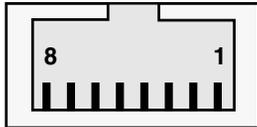

FIGURE 3 Ethernet Management Port Pin Locations
- FIGURE 3 shows the Ethernet management port pin locations.